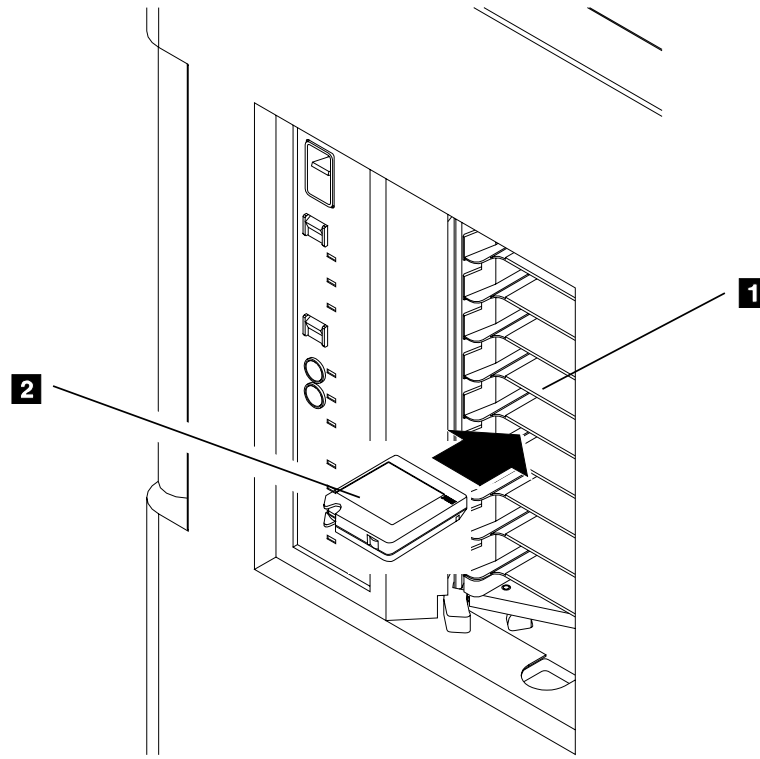
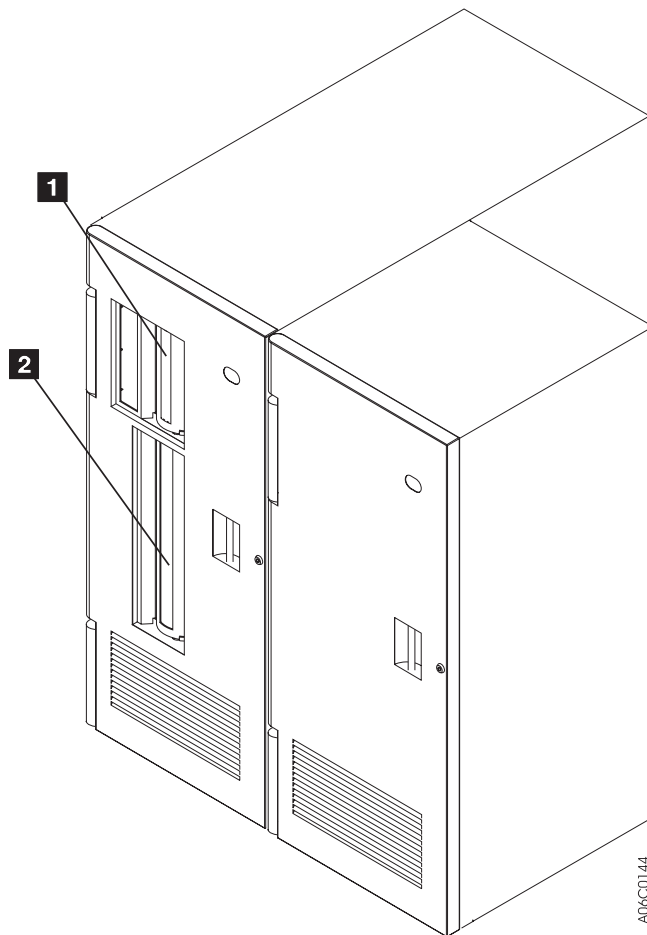

Figure 34. Inserting Cartridges in the Convenience Input/Output Station
Figure 35. Optional 30-Cell I/O
Note: The ten-cell I/O station feature is shown in Figure 34 on page 79. Figure 35 on page 80 shows the optional 30 cell I/O. If the 30-cell I/O is installed, the operation remains the same, but there are two operator doors. The upper operator door **1** provides access to the top 10 cells. The lower operator door **2** provides access to the lower 20 cells. (Both doors open together.)
2. Insert the cartridges **2** (see Figure 34 on page 79) that you want to add to the library into the Convenience Input/Output Station **1** with the cut-off corner (and leader block) to the left and the external label facing to the **inside** of the Convenience Input/Output Station. Shut the Convenience Input/Output Station door.